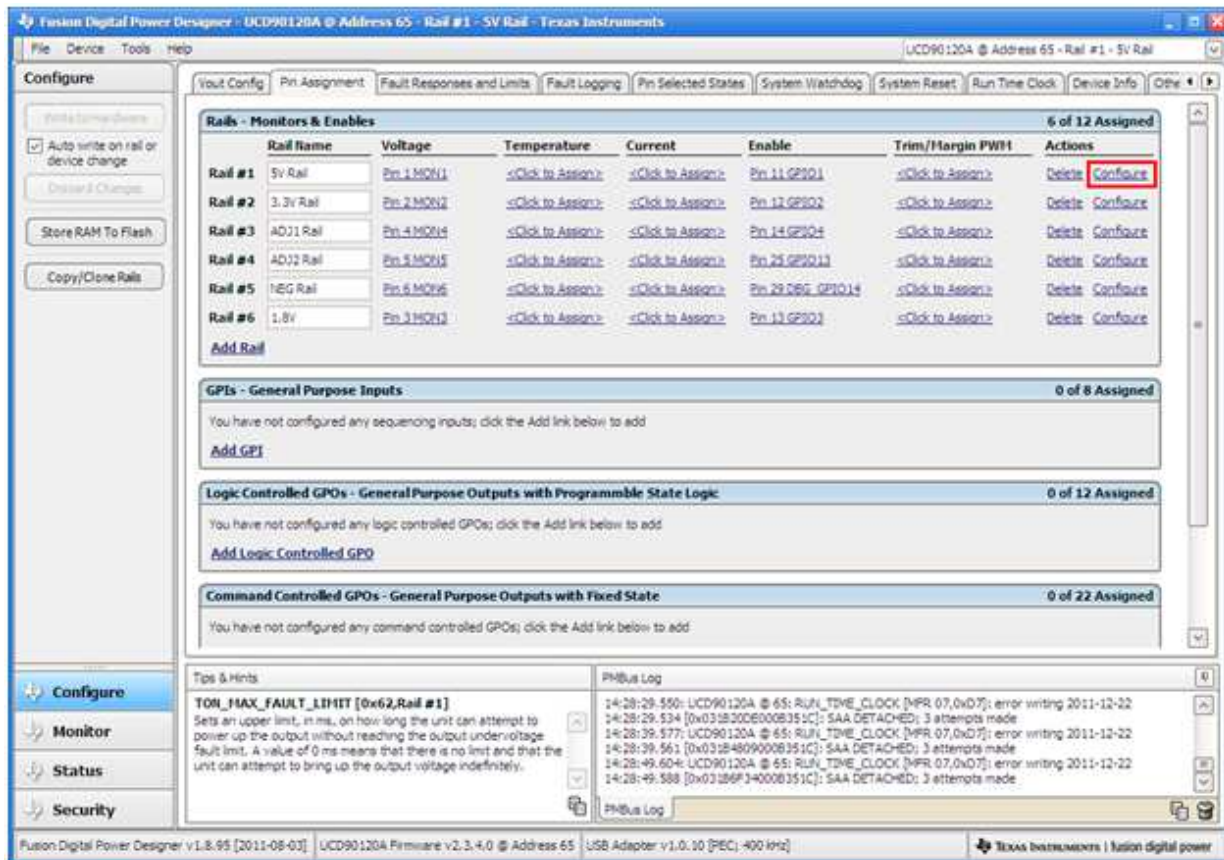
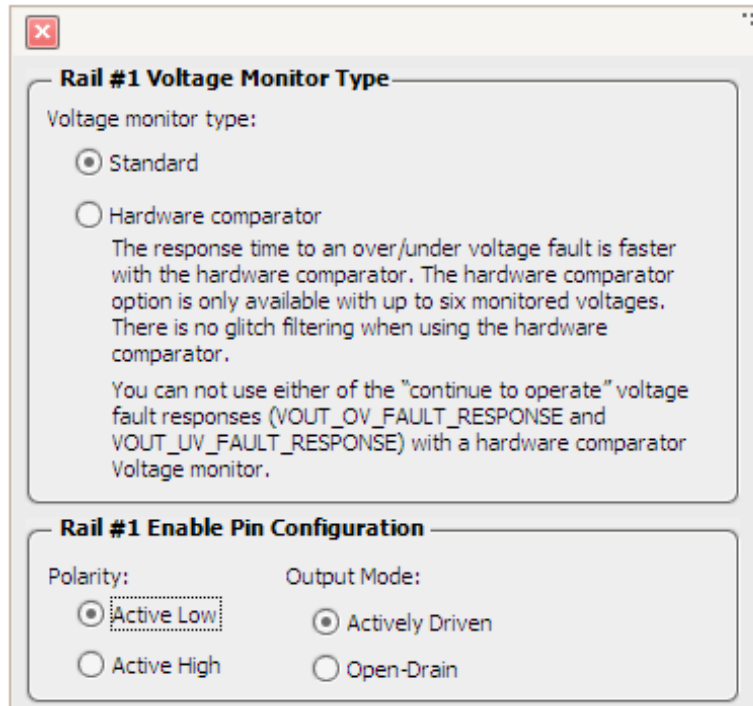

Figure 3. Pin Assignments For Supplies, Enables, and Monitoring
Figure 4. Enable Polarity and Output Mode Type
Different configurations are possible with the TSW2200, notably changing the enable settings so the EVM powers up with all supplies off or all supplies on. Configuration of active-low or active-high enable settings for each supply as well as the pin assignments for monitoring and enabling are shown in the pin assignment screen, Figure 3.
Pin assignments are made for the rail name using the pin monitors, as seen in the Voltage column in Figure 3. These are preset and must not be changed as this is a permanent pin configuration in the hardware. Because the negative regulator's output is -5 V , the monitor pins of the UCD90120A cannot support a voltage outside the range of 0 V to 2.5 V . In order to eliminate an extra inverter for purposes of converting the -5 V to the required monitor voltage range, no monitoring is provided for the -5 V supply.
The enables are also preset in the hardware and must not be changed from the settings shown in Figure 3. All supplies have an enable pin connected and used so that all the supplies can be sequenced. The last customizable pin assignment configuration is under the Configure link highlighted in Figure 3. When selecting *Configure*, the screen shown in Figure 4 appears and allows options for an active-low or active-high enable polarity as well as two types of output mode configurations. The output mode configuration is always actively driven.
under Configure in Figure 3 are changed to Mode 1 settings. Another write to hardware is done, and then all supplies are sequenced without turning the board off and on. When all boards need to be sequenced off by a specified delay setting, then all enable polarities can be reset to Mode 2 and a write to the hardware can be repeated. This then sequences all supplies off, based on the specified time for each supply.
3. Set the enable polarities as listed in Mode 2 from Table 3 (accessible in Configure menu as shown in Figure 3).